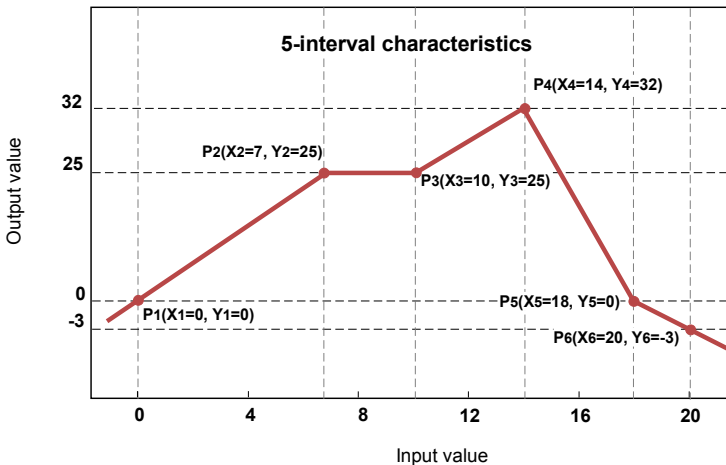

Fig. 7.34. Example of user characteristic
d) **user char.** - is defined as set of X-Y points. Number of the points is variable and may be set from 2 to 20 points which make linear segments (see Fig. 7.34). After choosing this option, parameter appears:
,where '**slope**' and '**offset**' are coefficients of a segment contained between two points (see **Fig. 7.34**), and **n = 1, 2 ..** is the number of the segment.
Steps to create a user characteristic consisting of 6 points (like on **Fig. 7.34**):